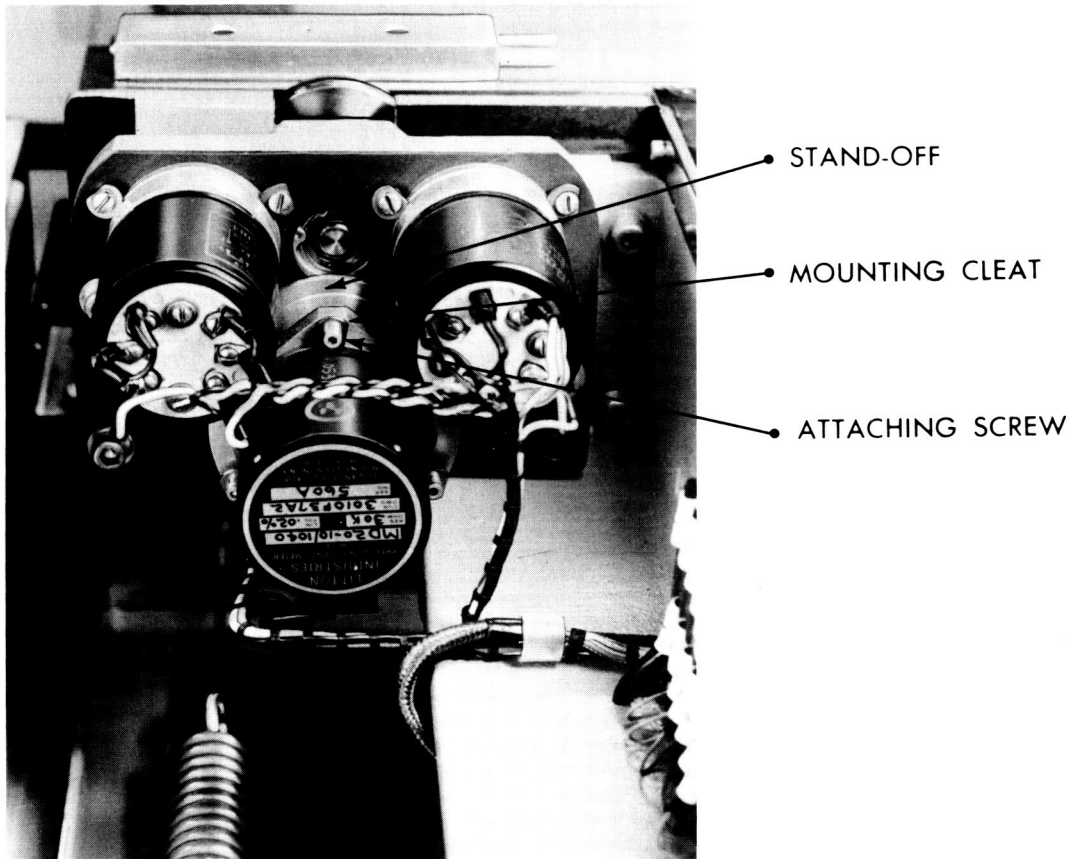

Figure 5-3. Arm Feedback Potentiometer Removal.
- c. Loosen the three screws attaching the potentiometer to the "stand-off." (See Figure 5-3).